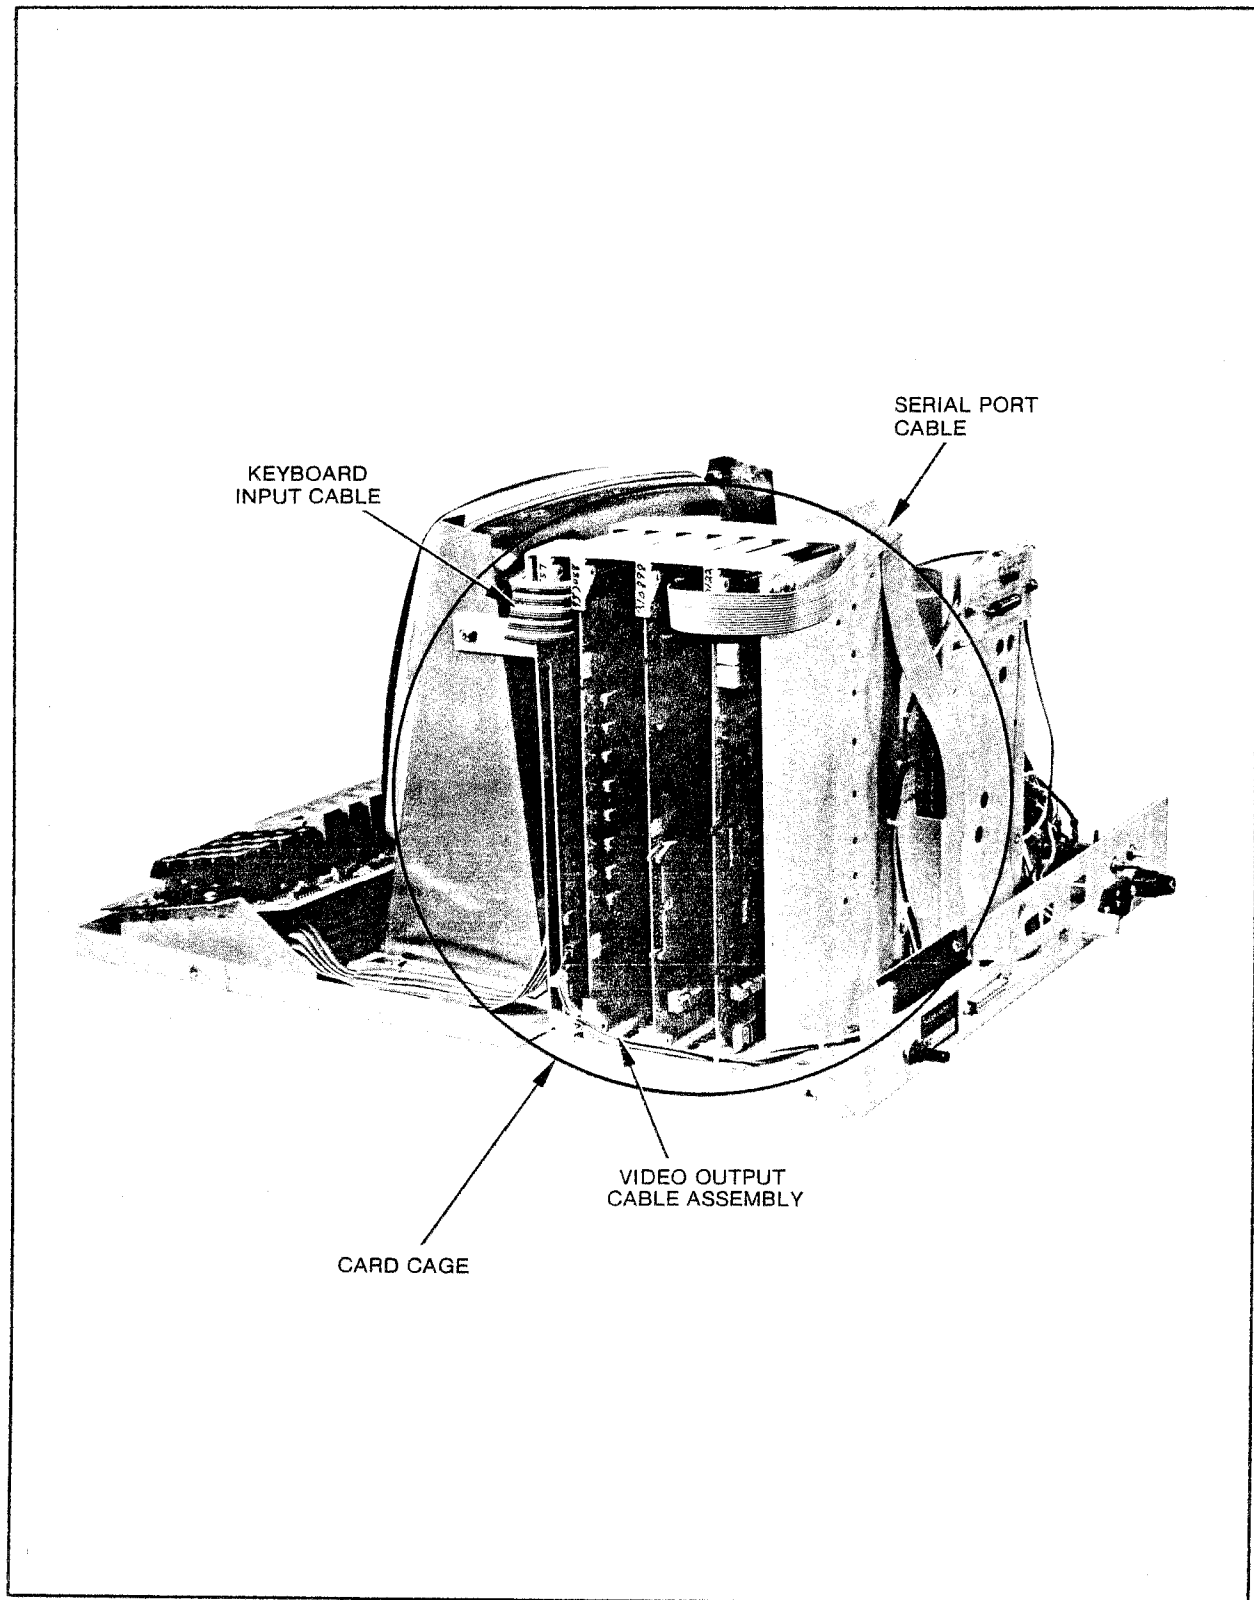

Figure 3-2 Vector 3 Card Cage
See figure 3-1 and figure 3-2 for an illustration of proper cable routing. Instructions for cable routing are as follows:
1) Cable from keyboard (See Figure 3-2) should be attached to J1 of the Flashwriter board.
2) Cable from Video Monitor Interface Board (See Figure 3-2) should be attached to the 6-pin molex connector on Flashwriter II board (smooth side out).
- 4) A serial interface cable (See Figure 3-2) may be connected to the 16-pin output connector on the ZCB board.
The keyboard is connected to the Flashwriter II board by a 24-pin dip plug (See Figure 3-2) to socket J1 near the lower right-hand corner of the board (side facing rear of chassis).
The Vector 3 Mainframe (See Figure 3-1) contains a CRT (Video) monitor, a power supply, and a 6-slot motherboard (See Figure 3-2). The on-off switch and the reset button are also located on the rear panel of the mainframe (See Figure 3-1).
The Vector 3 Motherboard (See figure 3-2) has 6 slots, is based on the S-100 bus structure, and is designed to provide a number of features not previously available.